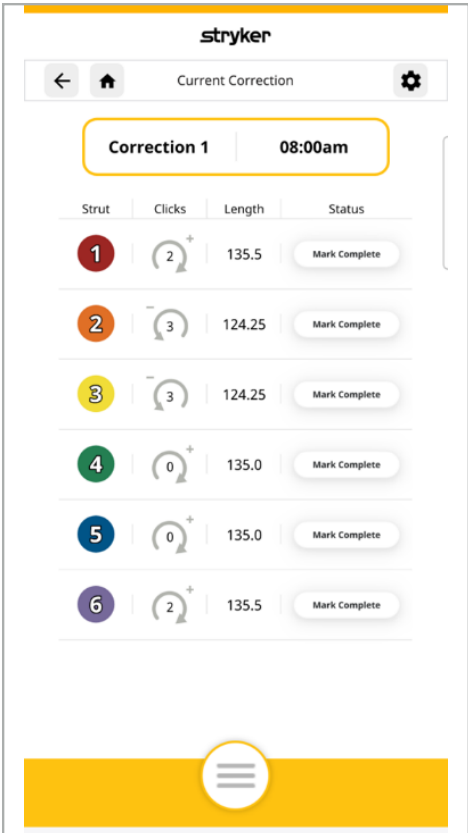

Figure 64
**For example:** Strut 1 should be adjusted 2 clicks in the clockwise (+) direction. When the adjustment is complete, the scale on the side of the strut should read 135.5. **(Figure 64)**